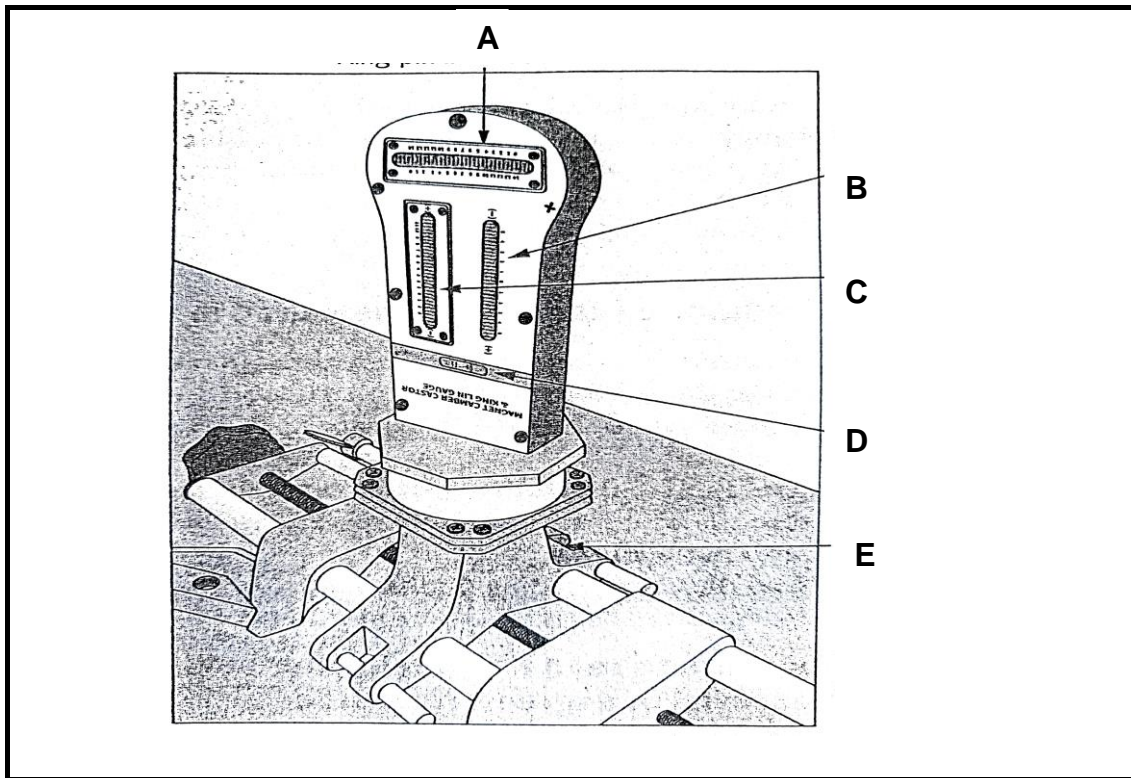

FIGURE 5.1
- 5.1.1 Identify the equipment in FIGURE 5.1. (1)
- 5.1.3 List **THREE** alignment angles that can be tested with the tool in FIGURE 5.1 above. (3)